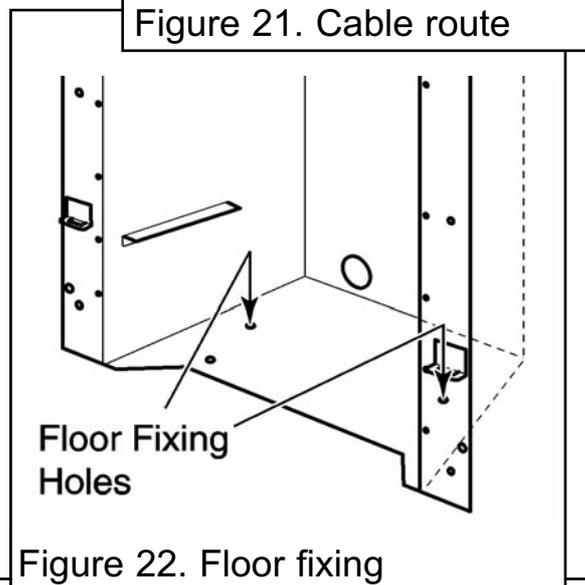

Figure 22. Floor fixing
8. Drill a hole into the fireplace floor through each of the two holes in the base of the hotbox using a suitably sized masonry drill bit for the fibre plugs supplied (See figure 22).